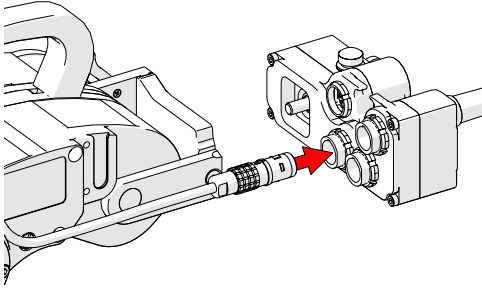

Fig. 123 - Connect to umbilical
4. Connect the right drive module's connector to the umbilical (Fig. 123).